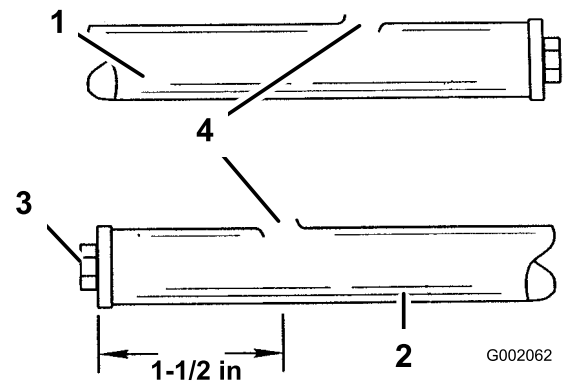

Figure 28
1. Locate, mark, and drill (through the top surface only) a hole (5/8 inch dia) 1-1/2 inch from the plugged end of the right boom pipe (Figure 28).
3. Use a round file or deburring tool to deburr the holes you drilled in the boom pipes (Figure 28).
4. Insert a drift punch into the 5/8 inch holes in the boom pipes and distort the openings as shown in Figure 28.